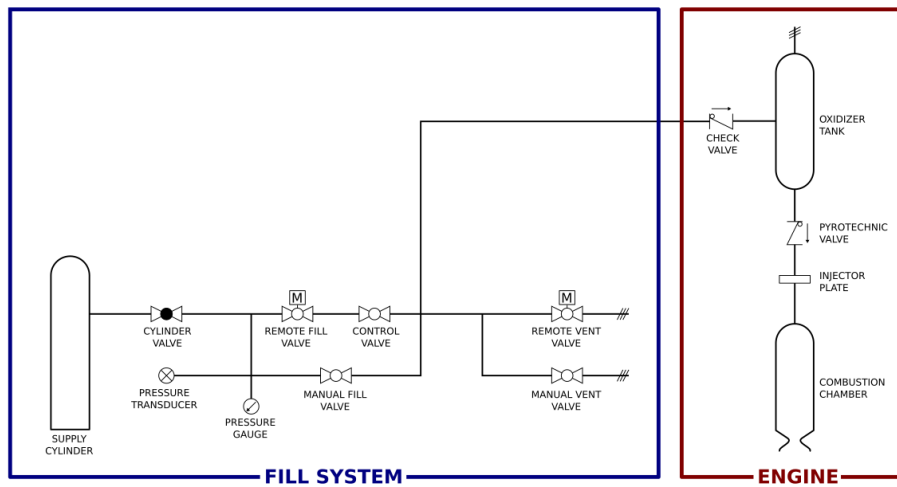

Figure 1: P&ID for the Vidar III engine and fill system
- 1 ☐ Ensure that the plumbing setup agrees with the P&ID shown in Figure 1